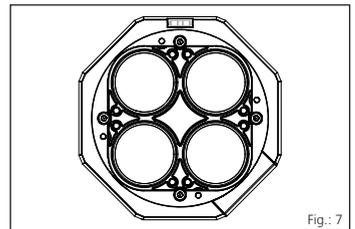

Fig.: 7
*For 2-level installation, the panel and level are swapped (see fig.: 7).*